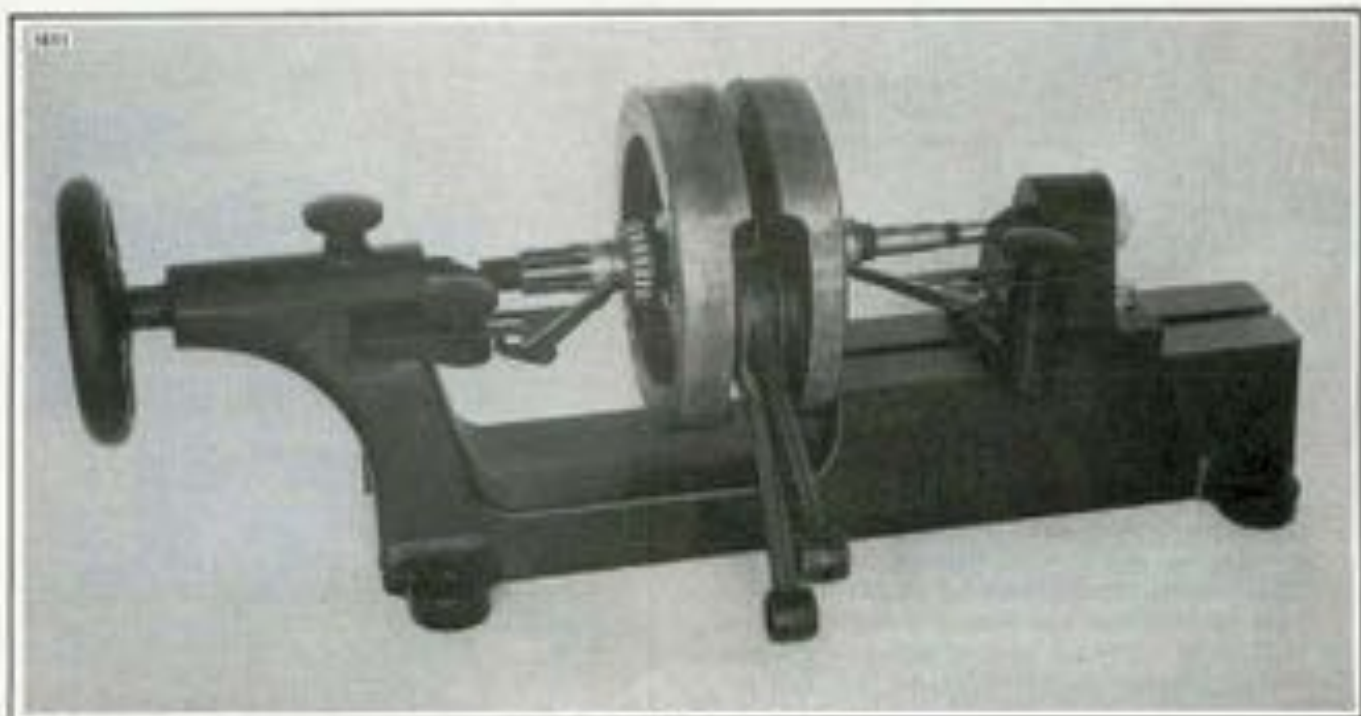
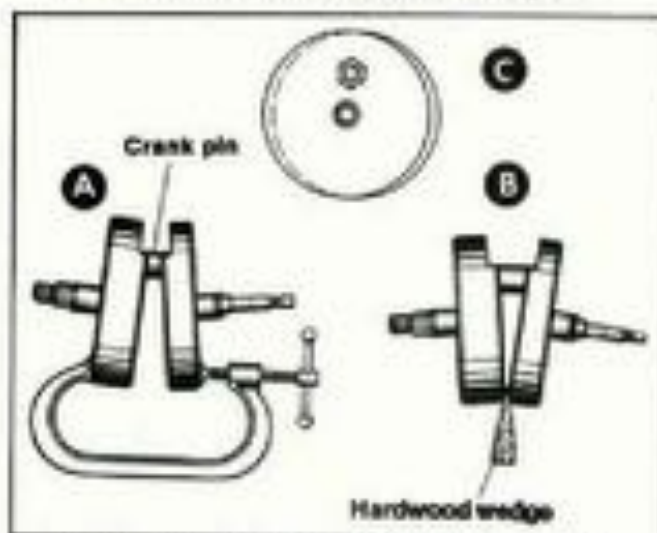

Figure 3-53. Truing Flywheel
Figure 3-55. Correcting Flywheel Alignment
2. Position right flywheel assembly in flywheel fixture, crank pin up. Wipe crank pin taper clean. Slip bearings and connecting rods over crank pin with forked rod to rear cylinder. On late 1983 and later connecting rods, the area of the male rod where it joins the crankpin bearing is slightly offset from the rod center. The heavy portion of the offset must face away from the forked female rod to be installed correctly. See Figure 3-53. Late 1983 and later connecting rods will not function in early 1983 and earlier flywheel halves. Wipe crank pin hole in left flywheel clean and dry. Install left flywheel and tighten nut lightly. Hold steel straightedge along outer face of wheel rims at 90 degrees from crank pin as shown in Figure 3-55. Tap outer rim of top wheel until wheels are concentric. Tighten nut, recheck with straightedge at frequent intervals. Use soft metal hammer to realign wheels.
3. See Figure 3-53. When nut is fairly tight, install flywheel assembly in FLYWHEEL TRUING DEVICE, Part No. HD-96550-80. Adjust so centers are snug. Wheels must turn freely but shafts may not be loose in centers. If flywheel assembly is either loose or squeezed, indicators will not read accurately. Adjust indicators to take reading as near to flywheels as possible, so pointers read at about the middle of the scales.
5. Flywheel may be out of true three ways, A, B and C, Figure 3-55 or a combination of two of the three ways.